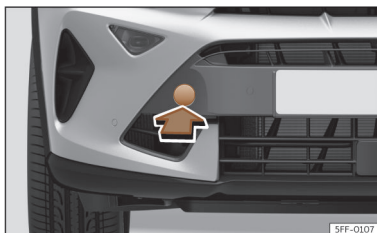

Fig. 215 Front bumper on right: remove the lid.
The housing of the removable towing eye is on the right side of the front bumper underneath a cover >>> **Fig. 215**.
- Remove the cover by pressing down on its base and leave it hanging from the vehicle >>> **Fig. 215**.